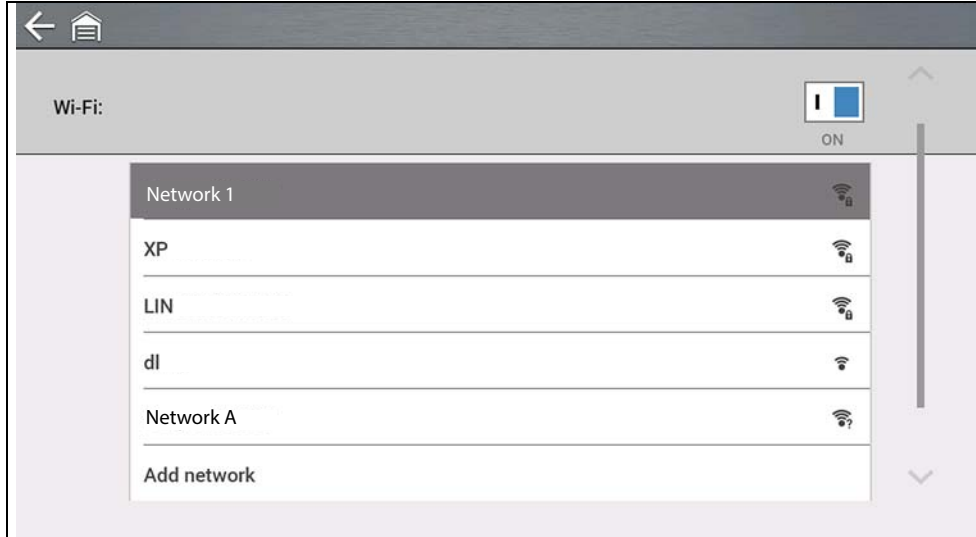

Figure 12-2
- To connect, select your network from the available networks (Figure 12-2).